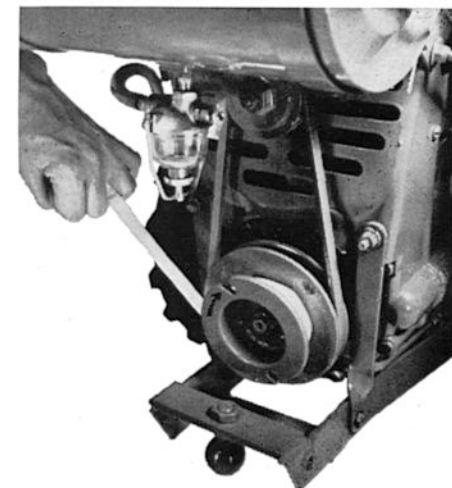

Figure 4
1. Turn the Pulley shown in Figure 4, counter-clockwise (opposite the direction of the arrow) as far as possible.